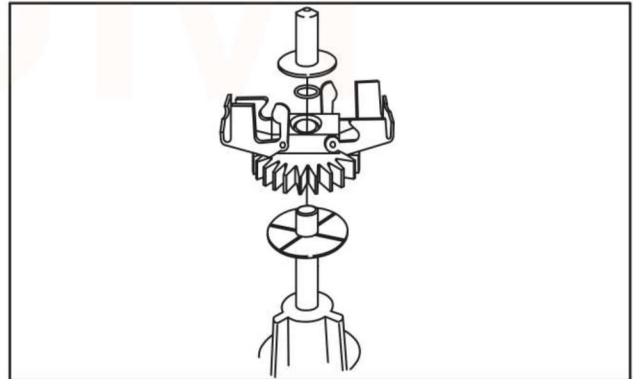

Fig. 12 – Check Governor Gear And Shaft
1. Check governor gear for burrs or nicks, Fig. 12.